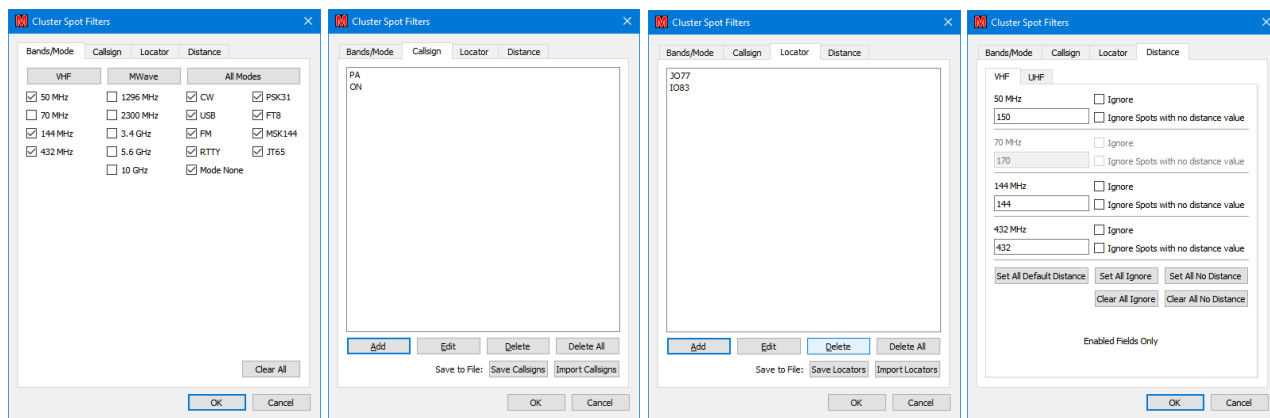

Figure 118 – Setting up filters
The content of the display can be controlled by clicking the “**Filters**” button and adjusting the Band/Mode of interest or the callsigns/locators to be watched¹²³ and the distance constraints (see Figure 118).
The Distance filters further restrict the spots displayed on the basis of the specified maximum ranges¹²⁵. Note in Figure 118 (4) that the 70MHz box is disabled because 70MHz is not selected in in Figure 118 (1).